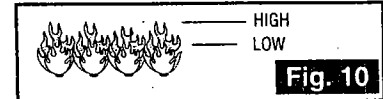

Fig. 10
- Visually check the flames every time you light your grill (Figure 10). If the flame is abnormally small or smokey yellow -- shut off the grill and check the venturi tubes for blockage (see Figure 8) or refer to the Troubleshooting Guide.